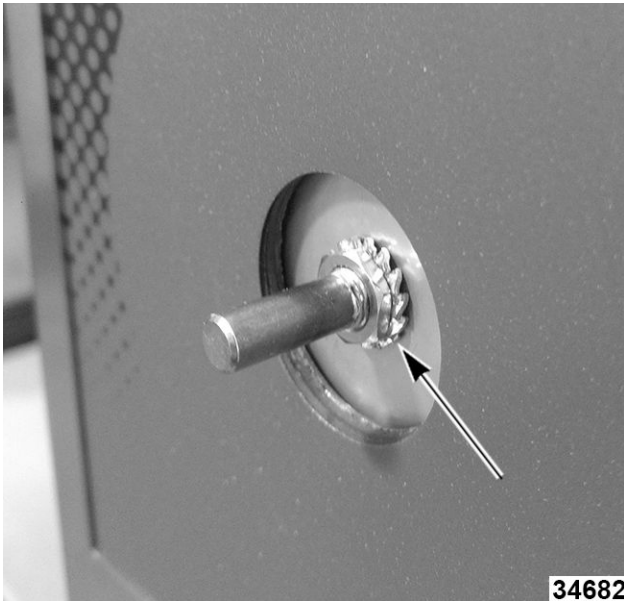

Fig. 12
2. Remove nut and washer (Fig. 12).